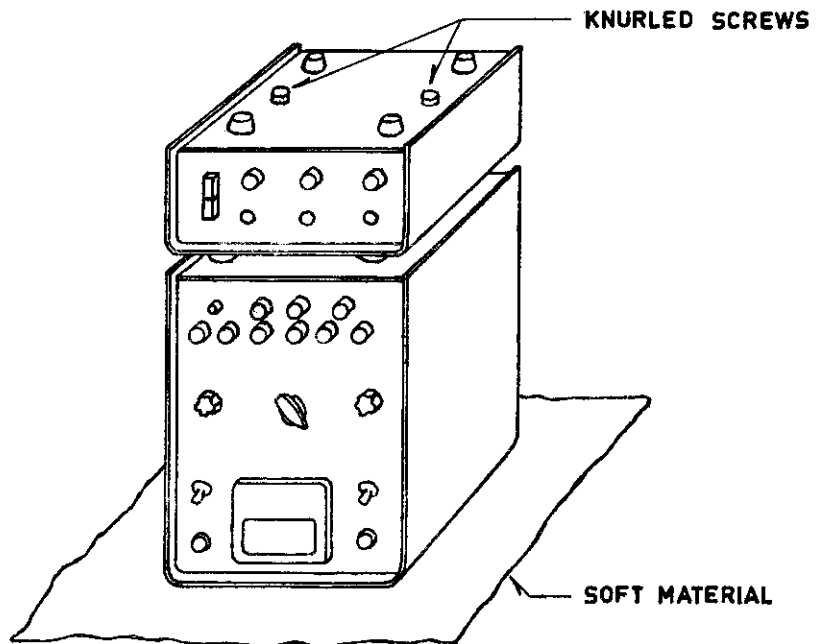

FIG.2.4 MECHANICAL ASSEMBLY OF THE SE21/DVS1
- 2.51 The DVS1 and the SE21 are electrically and mechanically coupled. The assembling is simple and may be carried out quickly - simply proceed as shown in figures 2.4 and 2.5.